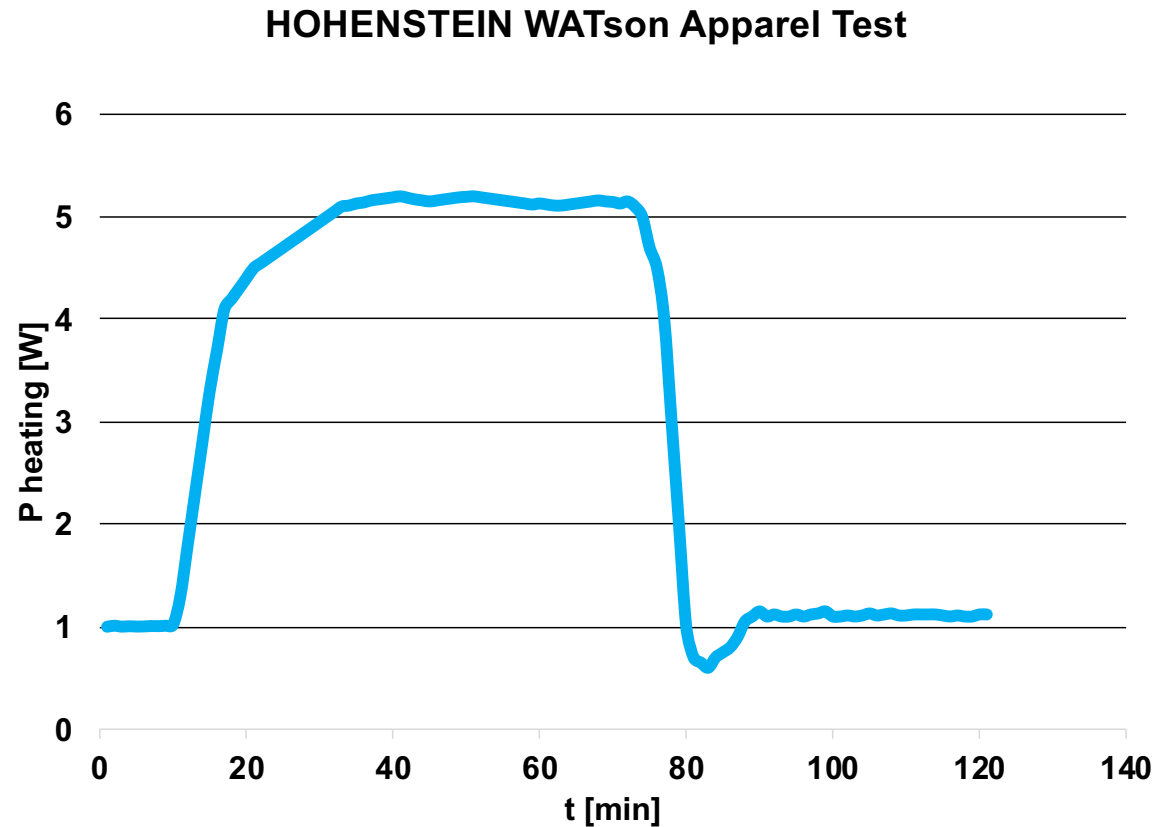
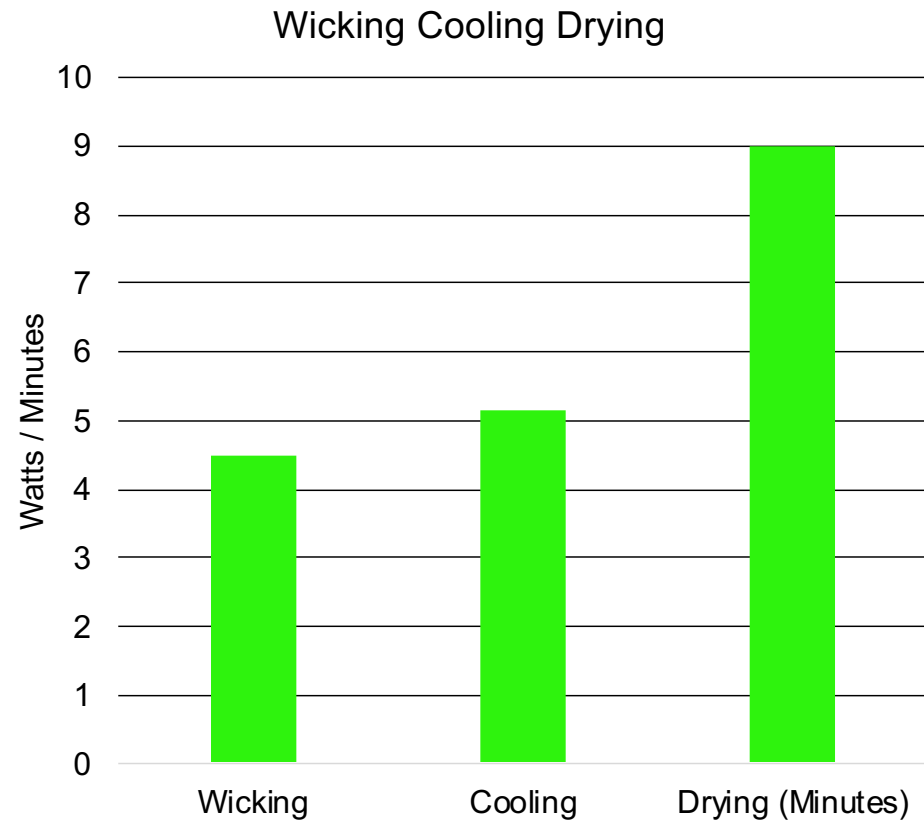

Figure 2. Graphical example of WATson test results.
Figure 3. Bar graph of key data from WATson test.
- Using these data points, the test shown in Figure 2 can be reviewed in bar graph format (Figure 3) for easier comparison between selected materials.